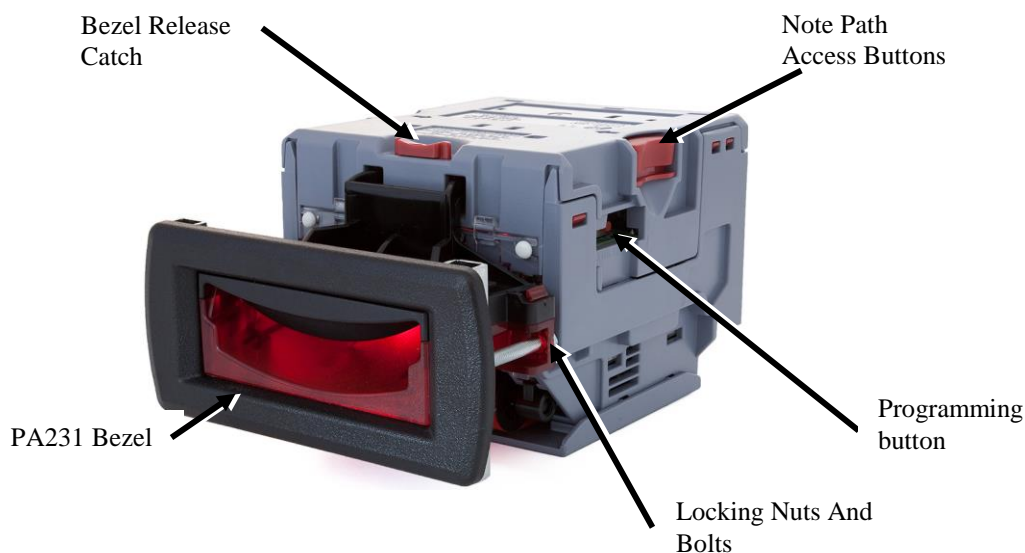

Figure 1 – NV10 USB Unit & Bezel
- Remove the 4 nuts, 2 metal clamps, star washers and 2 bolts from each side of the bezel as above (see Figure 1 below).